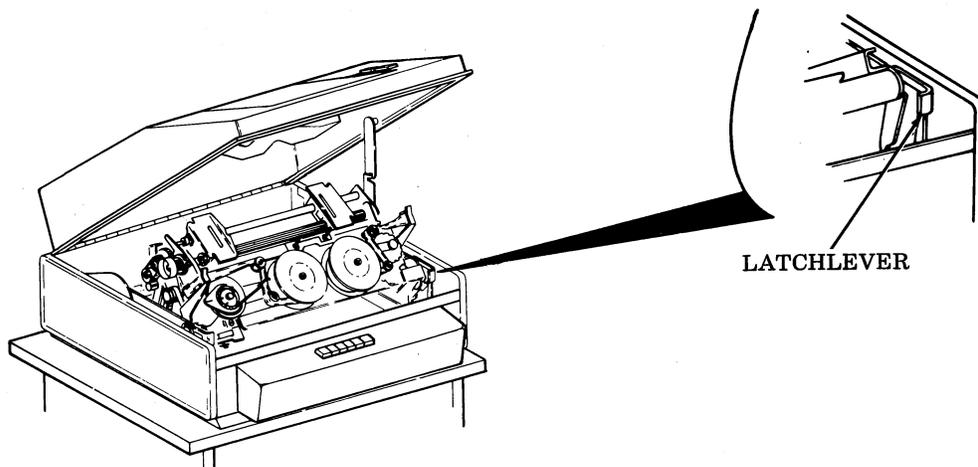

Fig. 33—Printer Assembled in Tractor Feed Cabinet
7.05 Install tractor feed printer in tracks. Raise front of printer and slide backwards until the left and right detents are engaged. Push right and left latchlevers toward rear of cabinet to release printer; push printer downward until it is latched (Fig. 33).